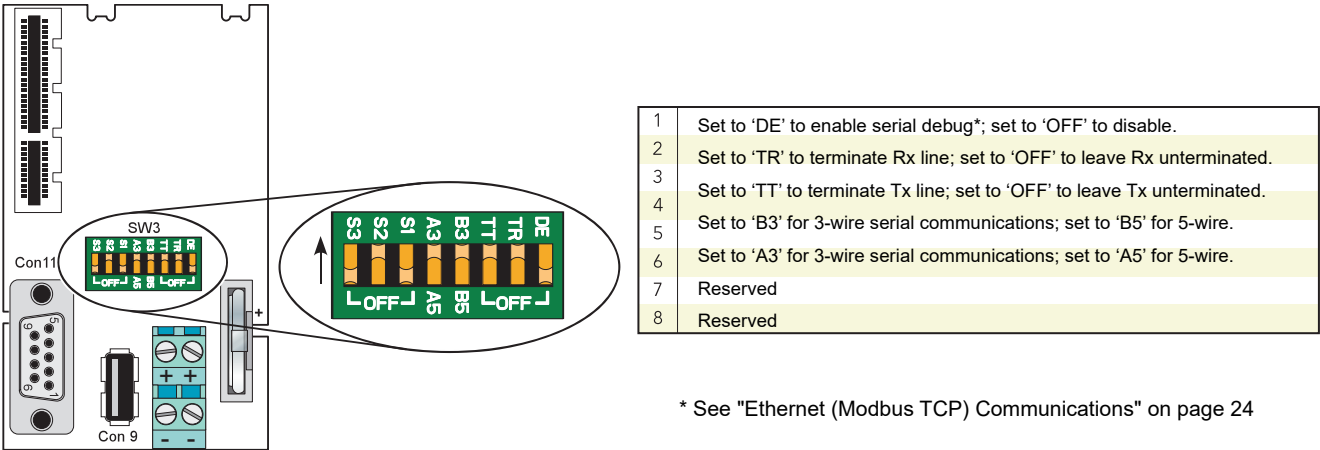

Figure 10 Communications hardware configuration details
- 2. 3-wire/5-wire working is selected using the eight-element slider switch (SW3) located on the IOC terminal board. The Tx and Rx lines can also be terminated (with 150Ω resistors) using other elements of this switch. See Figure 10 for details.